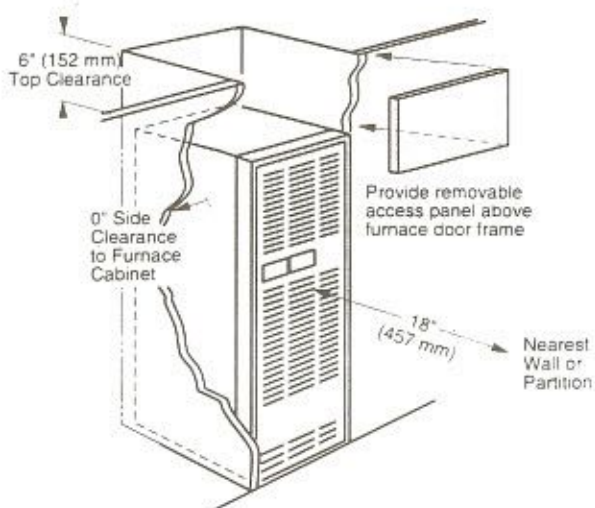

Figure 3. Alcove Installation
The furnace shall be appropriately located to the supply and return air distribution system. (See "AIR DISTRIBUTION", Page 9) Sides and back of the furnace may be enclosed by wall framing. (See "Minimum Clearances," Table 7, and Figures 3 through 5.)
- Alcove installations (see Figure 3); minimum 18" clearance at front of furnace shall be provided for future servicing. A removable access panel should be